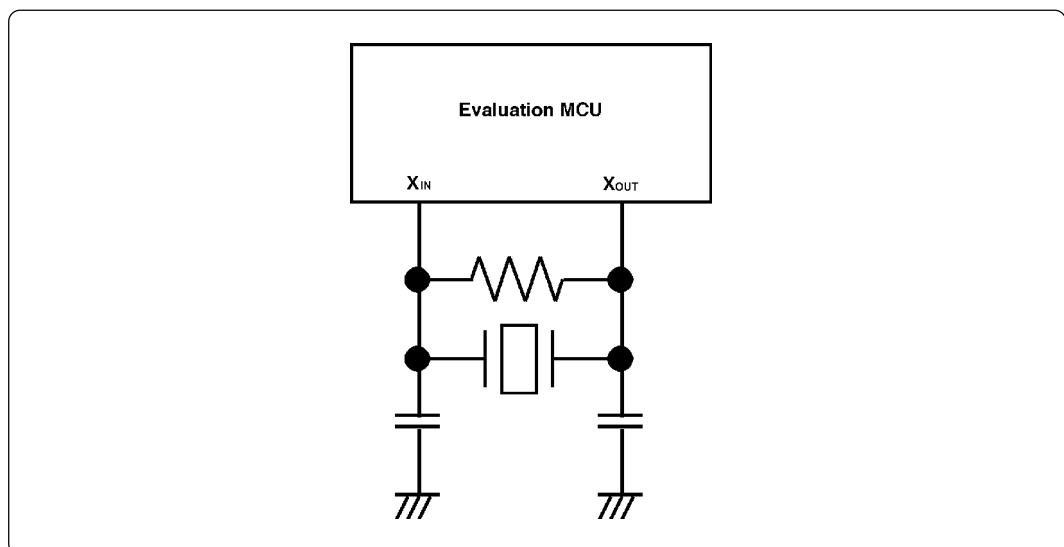

Figure 3.4 Circuit in which oscillation does not occur
- Make note of the fact that in the oscillator circuit shown in Figure 3.4 where a resonator is connected between the  $X_{IN}$  and  $X_{OUT}$  pins, oscillation does not occur because a flexible cable, buffer IC and other devices are used between the evaluation MCU and the target system.